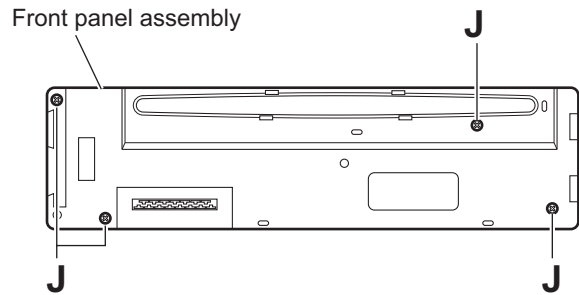

Fig.8
3.1.8 Removing the front board (See Figs. 8 to 10)
- (1) Remove the four screws **J** on the back side of the front panel assembly. (See Fig.8)